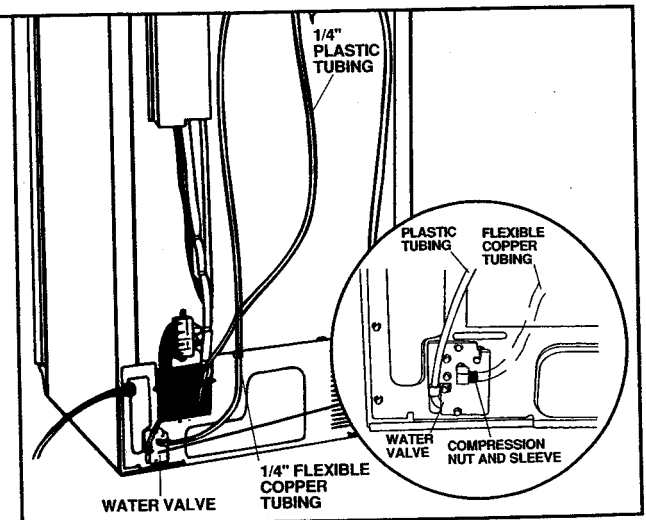

Figure 25
- f. Remove yellow plastic cap on water valve before connecting the 1/4-inch flexible copper tubing service loop (*provided by installer*) to the water valve with a 1/4-inch tube compression nut and sleeve. See Figure 25.